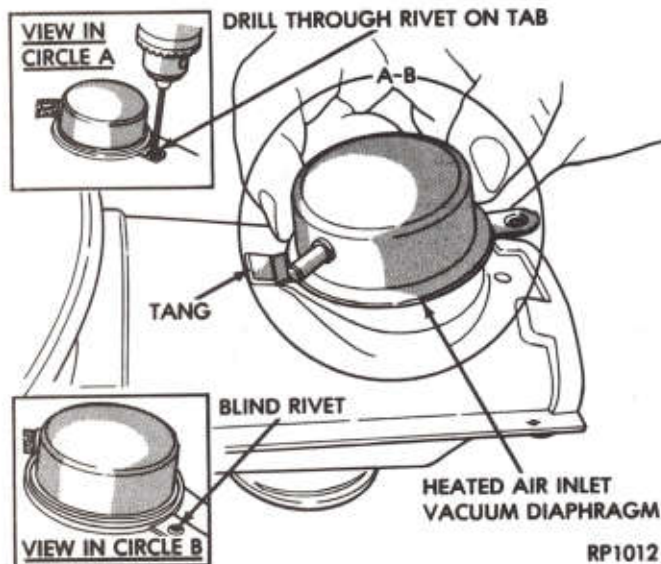
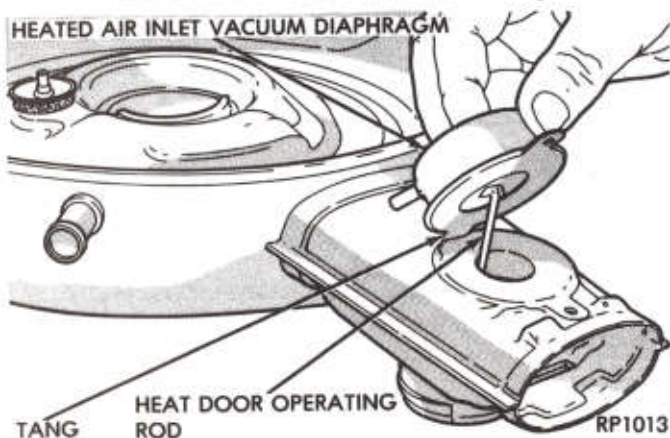

Fig. 8—Removing Diaphragm Rivet
Fig. 9—Servicing Diaphragm
(1) Remove the air cleaner housing from vehicle. Disconnect vacuum hose from the diaphragm, drill through the rivet (Fig. 8), then tip the diaphragm slightly forward to disengage lock. When the diaphragm is free from the snorkel, slide the complete assembly to one side to disengage operating rod from heat control door (Fig. 9).
(1) Insert operating rod into heat control door. Position diaphragm tang into opening in snorkel. Rivet tab in place (Fig. 9).
(2) Apply 4 inches of vacuum to diaphragm hose nipple, the heat control door should operate freely. **Manually operating heat control door could cock the operating rod or diaphragm which would restrict proper operation of the system.**
(3) Assemble air cleaner, install on vehicle and test operation.